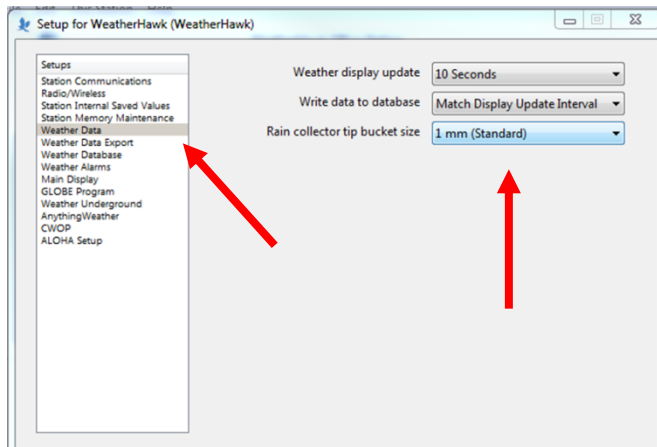

Figure 7: Weather Data settings
6. Select *Weather Data* from the list of Setups on the left of the Setup screen (figure 7)